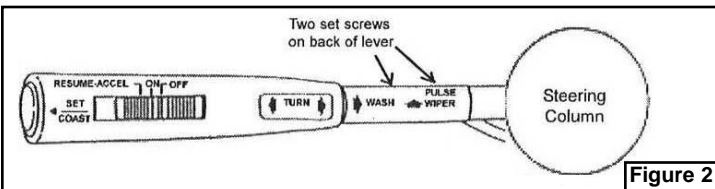

Figure 2
- b. Slide switch and lever assembly onto stud, rotate so lettering is visible to driver, and tighten two set screws. Figure 2